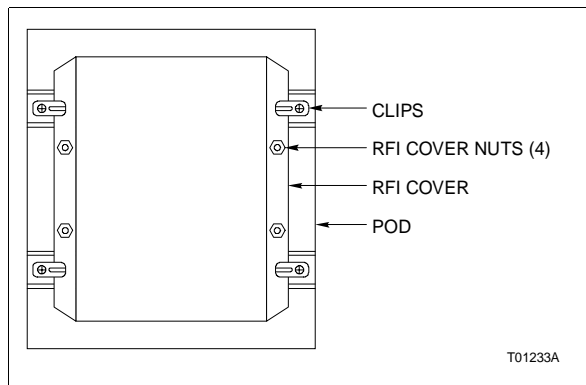

Figure PR64-2. ADP
- 6. Rotate the four clips that hold the ADP or blank plate into the pod. It might be necessary to loosen the clip mounting screws (Fig. PR64-2).